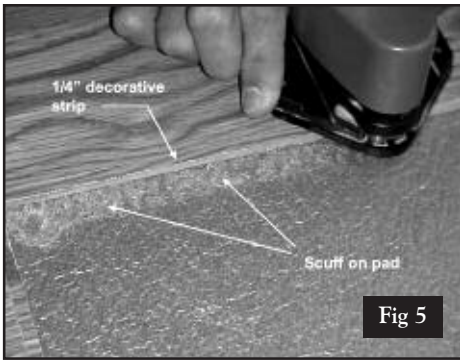
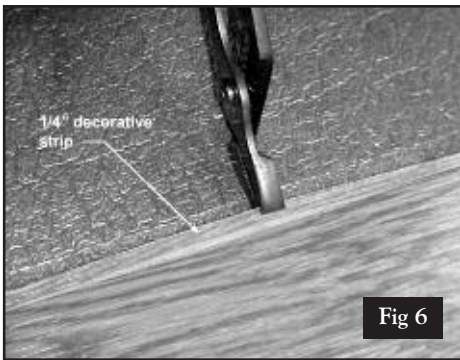

Fig 5
Fig 6
6. Set-up a router and dado bit (Part #H1000545) so that the bit scuff's the top of the underlayment padding (see Fig. 5). Using the router, machine along the inside of all four (4) edges of the saw cut opening. Now, using channel lock pliers carefully remove the 1/4" decorative strip from the inside edge(s) of the plank/tile opening (see Fig. 6). Note: Repair any cut or tear damage to the vapor barrier with polyethylene or foil tape.